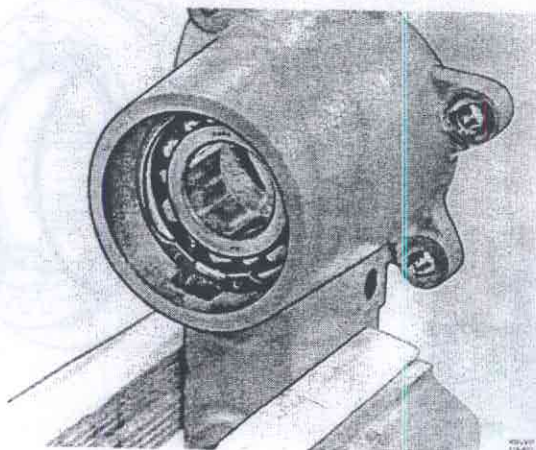

Fig. 43-177. Rear bearings circlip
3. Fit the outer circlip. Circlips are available in thicknesses of 1.9 and 2.0 mm (0.076 and 0.080"), and use the circlip which gives the smallest clearance. Note that the opening of the circlip should be placed at the oil channel in the housing, Fig. 43-177.